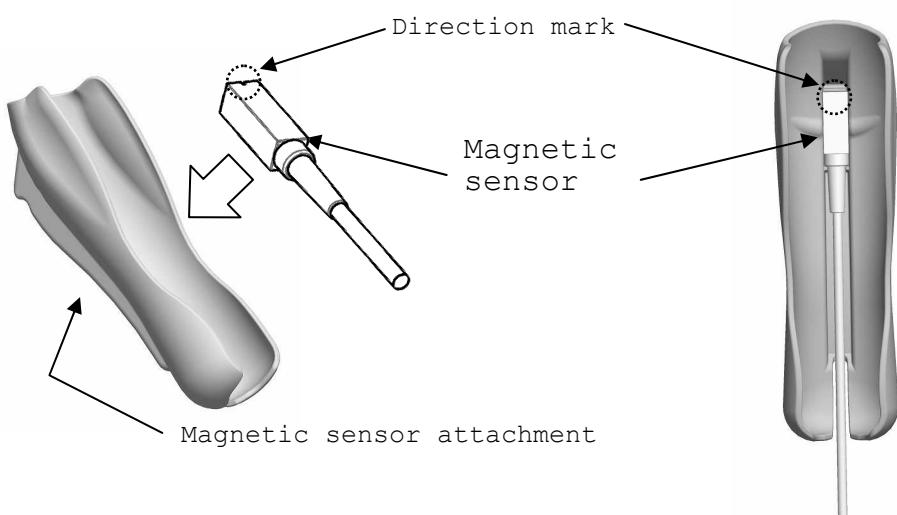

Fig.7 How to attach the Magnetic sensor
- 2) Insert Magnetic sensor into the Magnetic sensor attachment in the correct direction as shown in Fig.7.